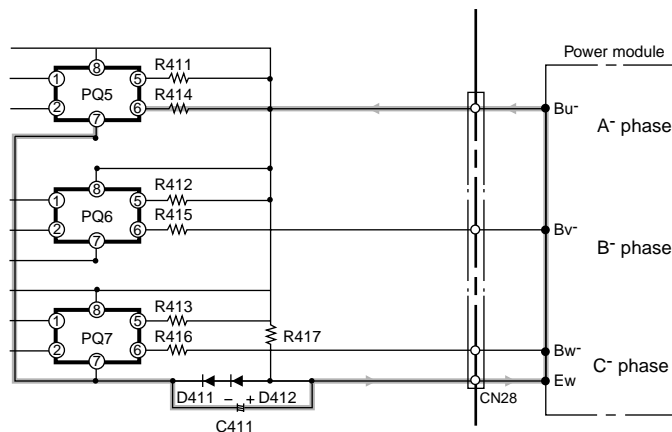
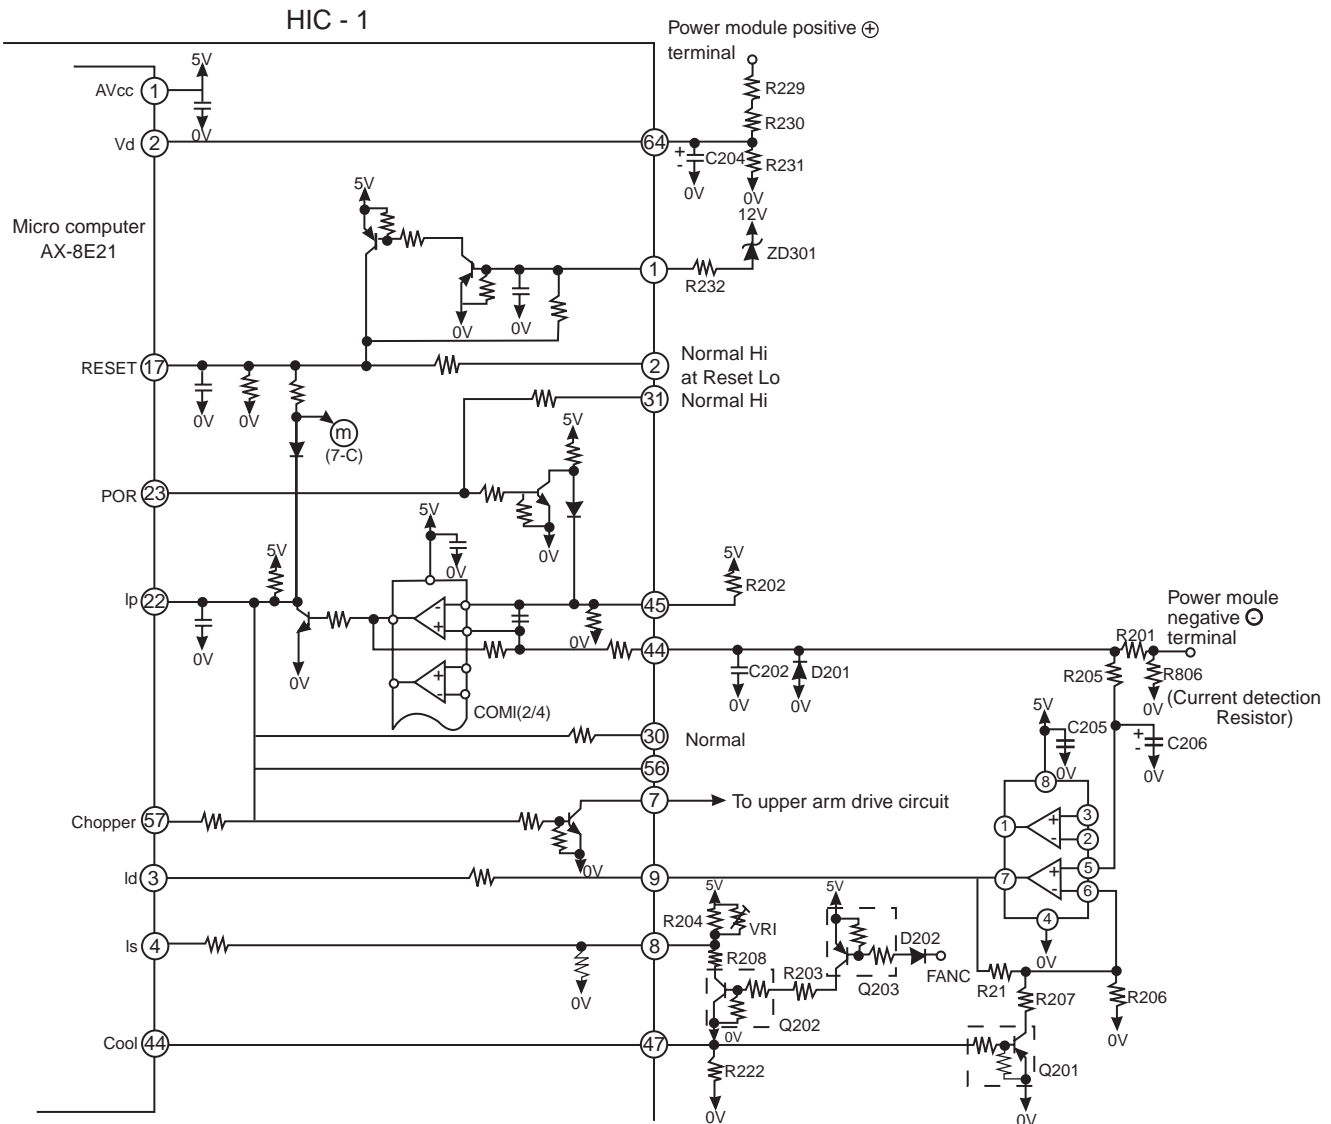

Fig. 7-5
Fig. 8-1 Micro computer(AX-8E21) and peripheral circuits
- When pin ③⑤ of the micro computer goes "Hi" → "Lo", a photocoupler between PQ601 pins ① and ② turn off and reverse bias current flows to C411 → power module's Ew⁻ terminals → Bu⁻ terminals → R604 → PQ601 to cut off the lower arm transistors. (Fig. 7-5)
- When the peak current cut off function operates, HIC-1 ③⑩ pins become 0V, PQ501-PQ503 and PQ601-PQ603 turn off and the upper/lower arm drive circuits stop.
- when a reset signal is applied, HIC pins ⑦ and ③② become open, PQ501-PQ503 and PQ601-PQ603 turn off and the upper/lower arm drive circuits stop.
- Fig. 8-1 shows the micro computer and its peripheral circuits, Table 8-1, the basic operations of each circuit block, and Fig. 8-2, the system configuration.